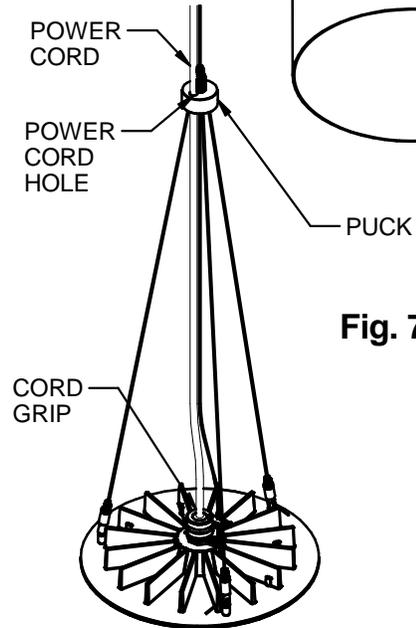

Fig. 7
- Feed the power cord through the hole in the puck assembly and insert the end of the power cord through the cord grip and into the cylinder wiring compartment (Fig. 7). Trim the power cord to length, if needed. **NOTE:** If desired, tie the power cord to the 20 foot cable with nylon cable ties every foot *before* trimming the power cord to length! Strip the jacket from the power cord and strip the end of each conductor 3/8ths of an inch. Make the electrical connections in the fixture wiring compartment. The line voltage (Black) conductor connects to the two-position connector with the Red thermal protector wire. The neutral (White) conductor attaches to the empty position on the connector with the White wires. Connect the ground (Green) conductor to the two-position connector with the Green wire. Use the two extra power cord conductors (Purple and Gray) to connect to the dimming control wires, if provided. Make sure to follow the same connection colors as used in Step 3. **Cap off these conductors if not used.**
10. Tirer le cordon d'alimentation à travers le trou du palet et enfiler l'extrémité du cordon à travers le serre-cordon et dans le compartiment de câblage du cylindre (Fig. 7). Couper le cordon d'alimentation à la longueur comme il se doit.